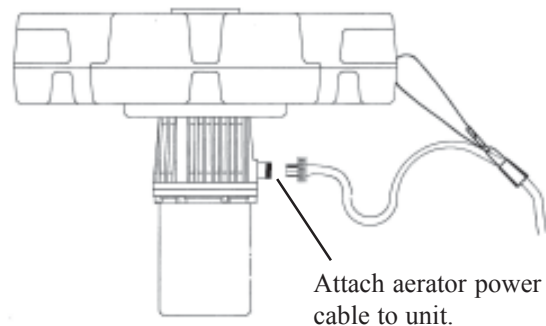

Figure 2
**B. Attach your Otterbine power cable to the aerator.** Using a screwdriver, remove clamp from connector nut. Align the pigtail connector on the cable up to the pin configuration on the bulkhead on the aerator. **HAND TIGHTEN** the coupling nut onto the bulkhead connector. **DO NOT OVER TIGHTEN -- OVER TIGHTENING WILL CAUSE A FRACTURE IN THE CONNECTOR AND COULD LEAD TO A SHORT CIRCUIT--**see Figure 2. Using a screwdriver, refasten clamp around connector nut.